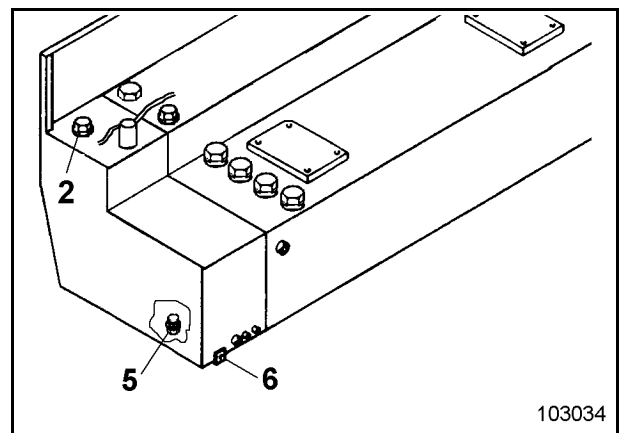

Fig. 3-15:
- Unlock the oil dipstick (2, Fig. 3-15:) and withdraw.